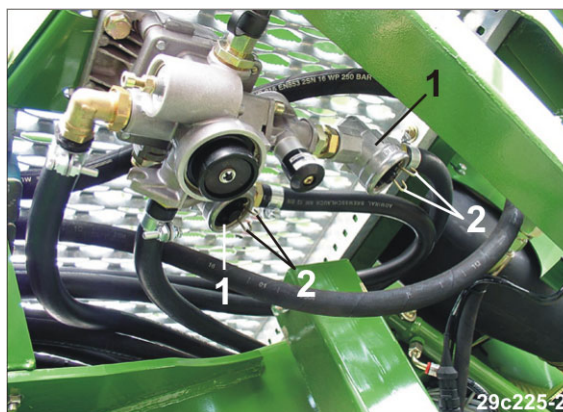

Fig. 225
The dual-circuit pneumatic braking system is equipped with two line filters (Fig. 225/1). Clean both line filters as described above.
1. Press the two lugs (Fig. 225/2) together and take out the closure piece complete with O-ring, pressure spring and filter insert.